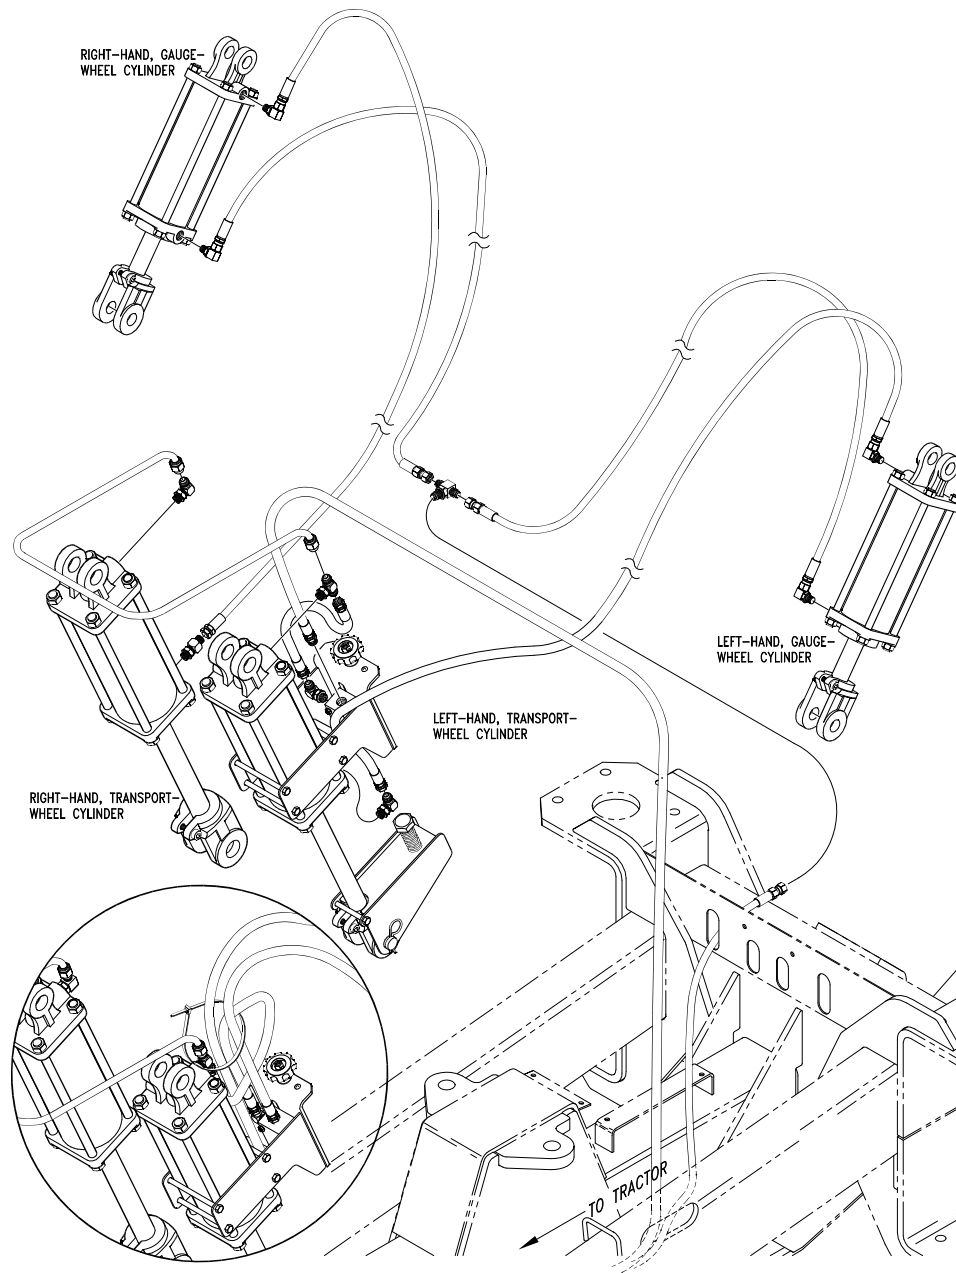

Figure 4
2. Complete the plumbing by following the schematic in Figure 4. The base-end and rod-end hoses must be identified and plumbed correctly.